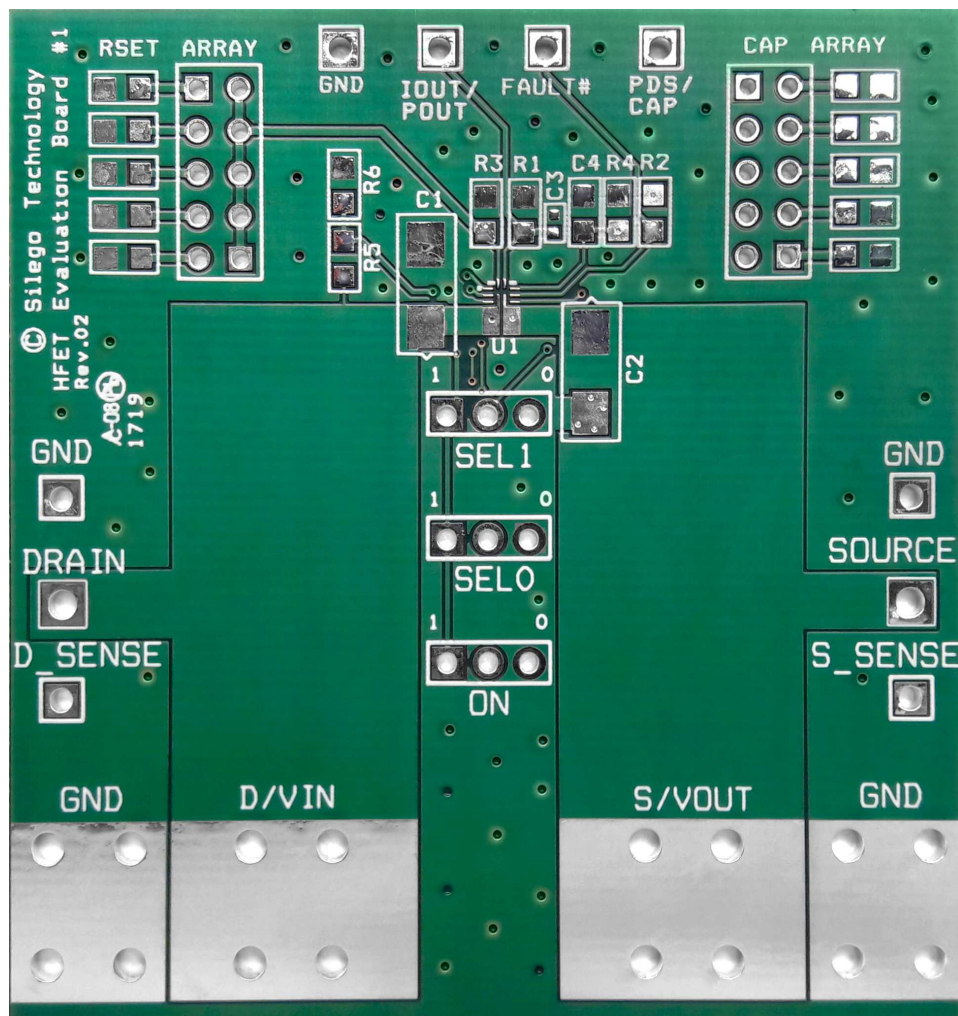

Figure 24. SLG59H1128V Evaluation Board
1. Since the VIN and VOUT pins dissipate most of the heat generated during high-load current operation, it is highly recommended to make power traces as short, direct, and wide as possible. A good practice is to make power traces with absolute minimum widths of 15 mils (0.381 mm) per Ampere. A representative layout, shown in Figure 24, illustrates proper techniques for heat to transfer as efficiently as possible out of the device;
A High Voltage GreenFET Evaluation Board for SLG59H1128V is designed according to the statements above and is illustrated on Figure 24. Please note that evaluation board has D\_Sense and S\_Sense pads. They cannot carry high currents and dedicated only for  $RDS_{ON}$  evaluation.